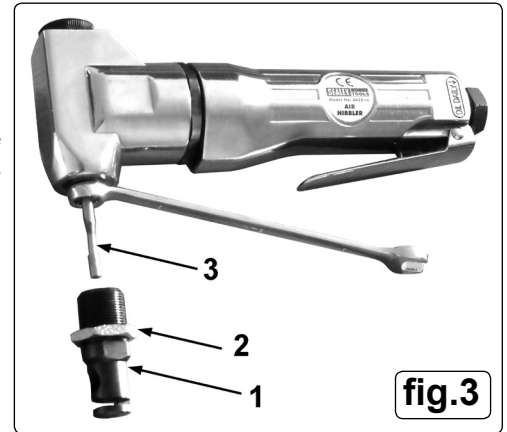

fig.3
- 6.6. **CHANGING THE PUNCH AND DIE (SEE FIG.3)**
- 6.6.1. Loosen the locknut (see fig.3.2) and unscrew the die (with the locknut on it) from the main body of the nibbler. Place a 9mm spanner onto the hex section of the die collar as shown in fig.3 and undo and remove the die collar and punch.